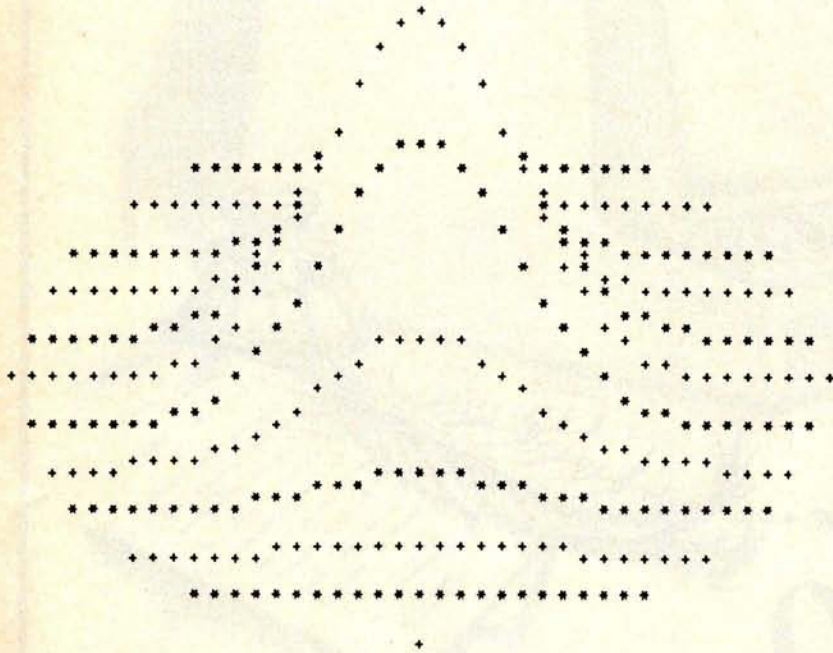
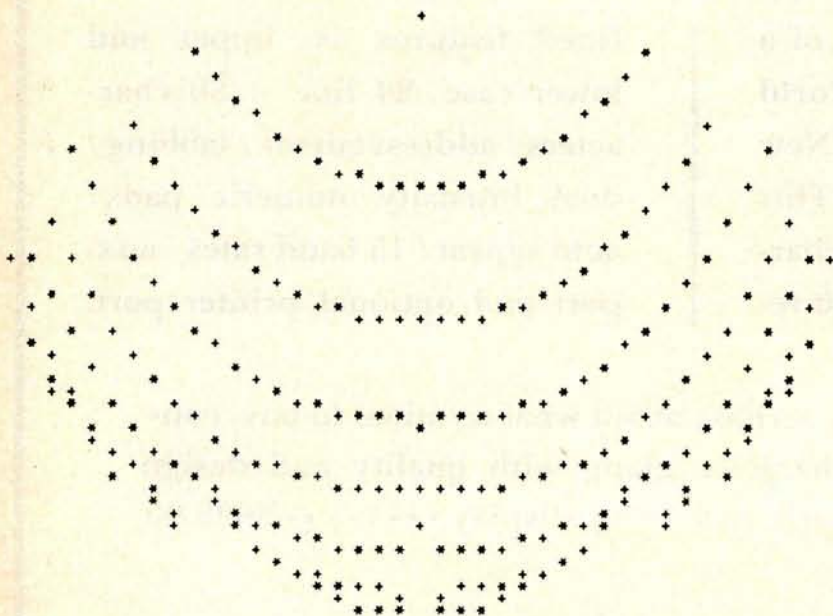

Figure 1: Plot of $Z = -30 * \text{EXP}(-f(x,y)^2 / 100)$
Figure 2: Plot of $Z = .001 * (f(x,y)^3 + f(x,y) - 25)$
To change the plotted equation, redefine function A (called FNA in the program) in line 60. Figure 1 shows the plot of the equation given in the program. Figures 2, 3, and 4 show different functions and their corresponding plots. Note that all figures have been rotated left by 90 degrees from the way they are actually printed. ■
Figure 1: Interface circuitry for GRAPH. An astable multivibrator (IC2) provides the pulse train for a hardware repeat function. The authors' keyboard produces a low to high transition strobe (STB) pulse when a key is pressed. This is used to trigger a monostable multivibrator to provide a single pulse keypressed (KP) signal to interface with the IO board used.
The circuit in figure 1 uses a 555 timer (IC2) to generate the repeat pulse train and apply it to the keypressed line. Notice that it is important to gate the pulse train with the original keypressed STROBE DC level from the character generator line so that the oscillator will operate only when a character key is pressed. Otherwise, invalid data will
Another handy circuit is contained in figure 1 (lower lefthand corner). Most keyboards presently available provide a low to high strobe transition to indicate a key is pressed. Many IO boards, however, require a single pulse to latch the valid data. This portion of the circuit in figure 1 converts a DC strobe level to a single pulse output.
Figure 2: Visualization of line starting and ending addresses in GRAPH. This type of information is helpful in understanding the subroutines that check for valid screen addresses. The Processor Technology VDM-1 displays 16 lines of 64 characters per line which reside in 1 K bytes of programmable memory.
Data from any register can be moved to the screen with a MOV M, X (whose X is any register) instruction. The position on the screen is determined by the 16 digit number in the H, L register pair, which in this case would be between hexadecimal CC00 (first screen position) and CFFF (last screen position). Allocations of the starting and ending line addresses, as well as the first invalid address on either side of the screen, are shown in figure 2.